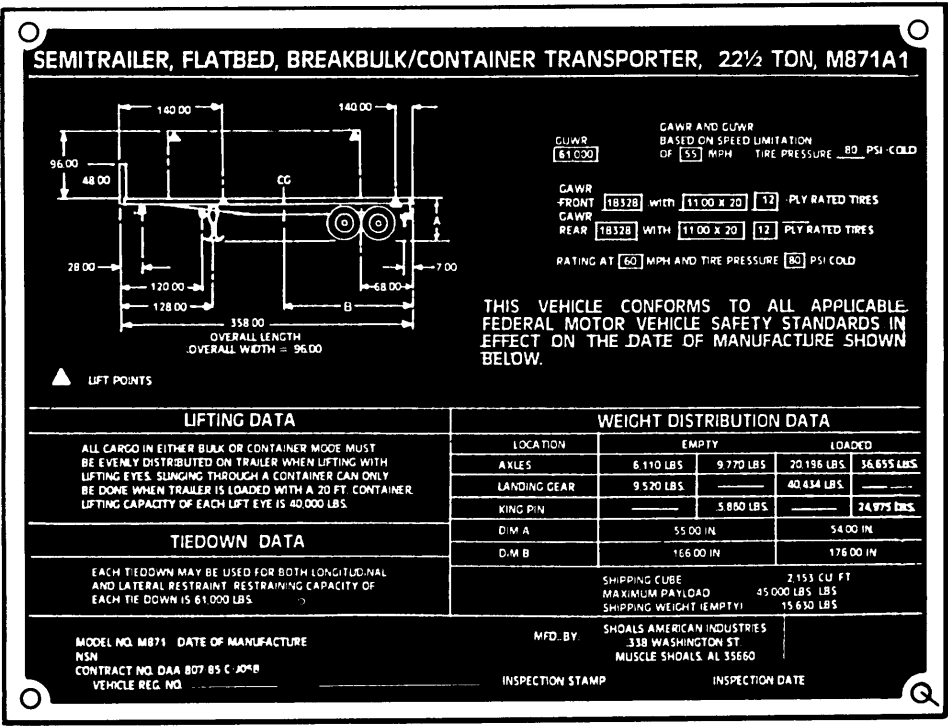

Figure 4-65. Data Plate
- (1) Remove four rivets (1, fig. 4-65) from data plate (2) .
- (2) Remove data plate (2) .
- (3) Repeat steps 1 and 2 for other data plate as needed.
- (1) Install data plate (2, fig. 4-65) into position.
- (2) Secure data plate (2) with four rivets (1).